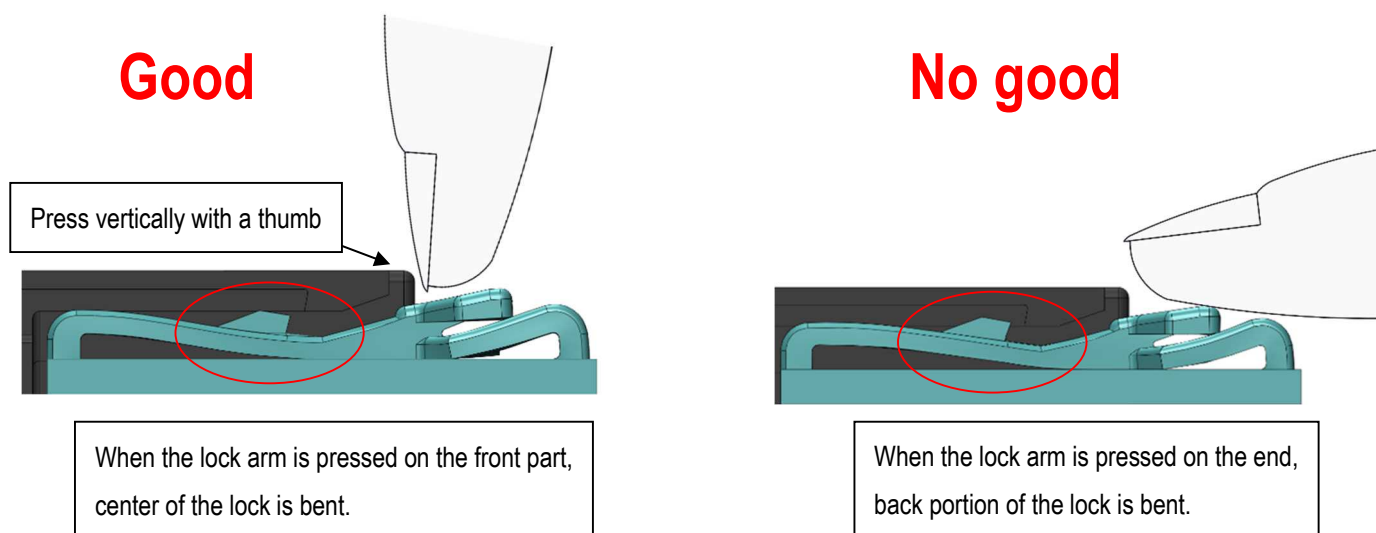

Fig53. Mechanism of the lock
- ④ Pressing down the end of the lock arm may not release the lock fully (See Fig. 53)